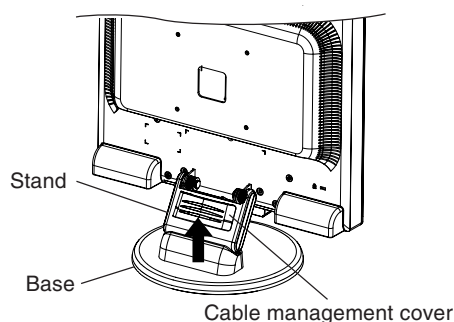

Figure A.4
3. Remove the Cable management cover (**Figure A.4**).